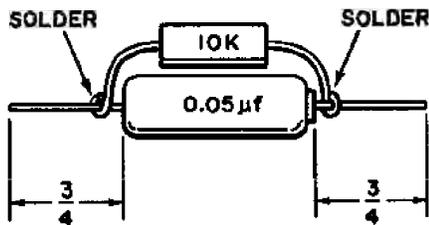

FIGURE 5
167. (✓) Select a 0.05  $\mu\text{f}$  400 volt molded capacitor C30 and a 10K ohm 2 watt resistor (brown, black, orange, silver) R25. Prepare these two components as shown in Figure 5. First, wrap the leads of the resistor around those of the capacitor. After cutting off surplus resistor lead, solder each wrap carefully. Trim each capacitor lead to  $3/4$ " in length. Slip a  $1/2$ " length of yellow sleeving over each lead and connect the resistor/capacitor combination between SW-3 lug 5 (S-1) and V5 lug 9 (NS). Be sure to connect the outside foil end (line) to V5 lug 9.